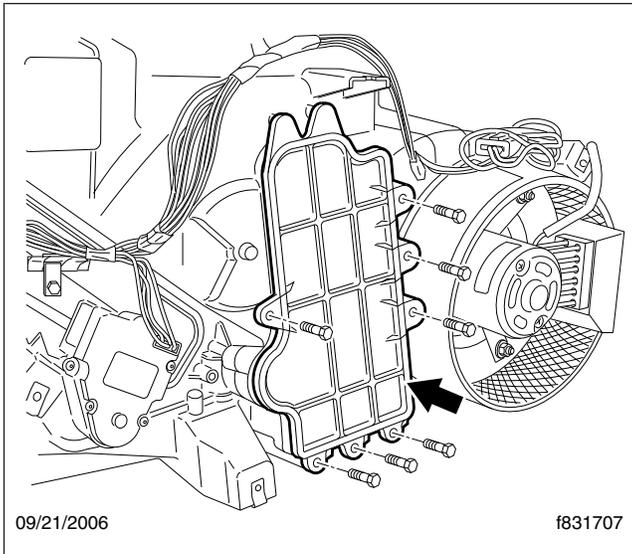

Fig. 1, HVAC Cover Removal
5. Remove the capscrews that attach the evaporator service cover to the HVAC assembly. Remove the evaporator service cover. See **Fig. 1**.